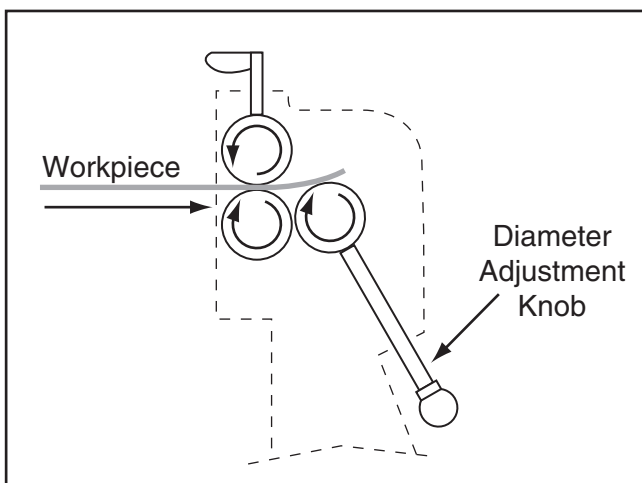

Figure 21. Starting the curve.
3. Use the diameter adjustment knobs to raise the rear roller, then use the hand crank to pass the workpiece through the machine (see the illustrations in **Figure 21–22**).